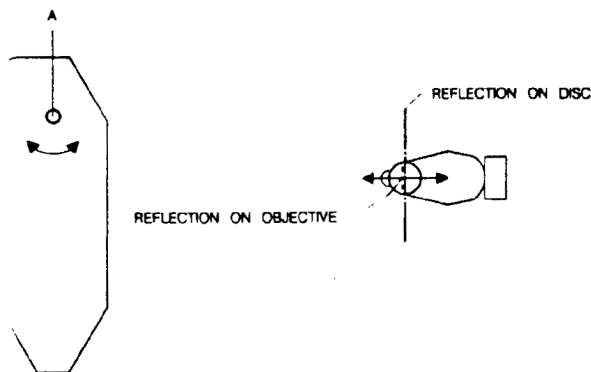

Fig. 18
- iii. Now turn the adjusting screw back so that the reflections are directly on top of each other, see fig. 18.